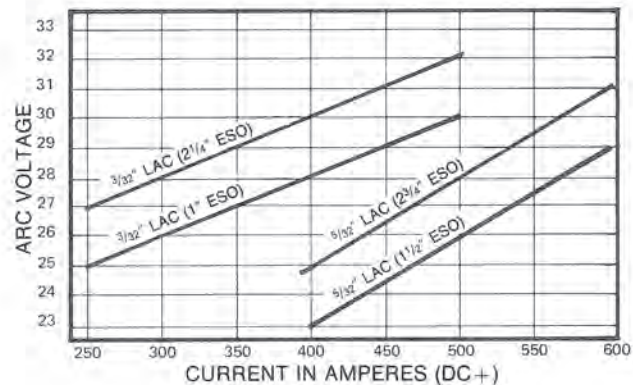

Figure 4
V. The proper voltage to current relationship for butt or heavy plate welding with single LAC-Ni2 and B2 electrodes is illustrated in Figure 4. For LAC-M2, add 2 volts to the voltage determined from Figure 4.